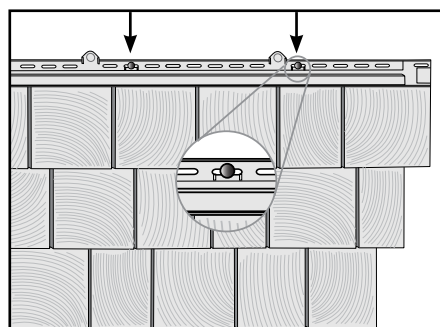

Figure 3
3. Fasten the panel to the wall by first nailing through the round center hole in the nailing hem at the top of the panel. Continue nailing the panel with 5 nails: one in the right-end nail slot and one at each of the QuickReference™ Nail Mark Indicators (Figure 3). Leave 1/8" to 1/16" between the nail heads and the panel to allow freedom of movement during normal expansion and contraction. The T5 panel features NailStop™ to guide in correct nail head clearance.